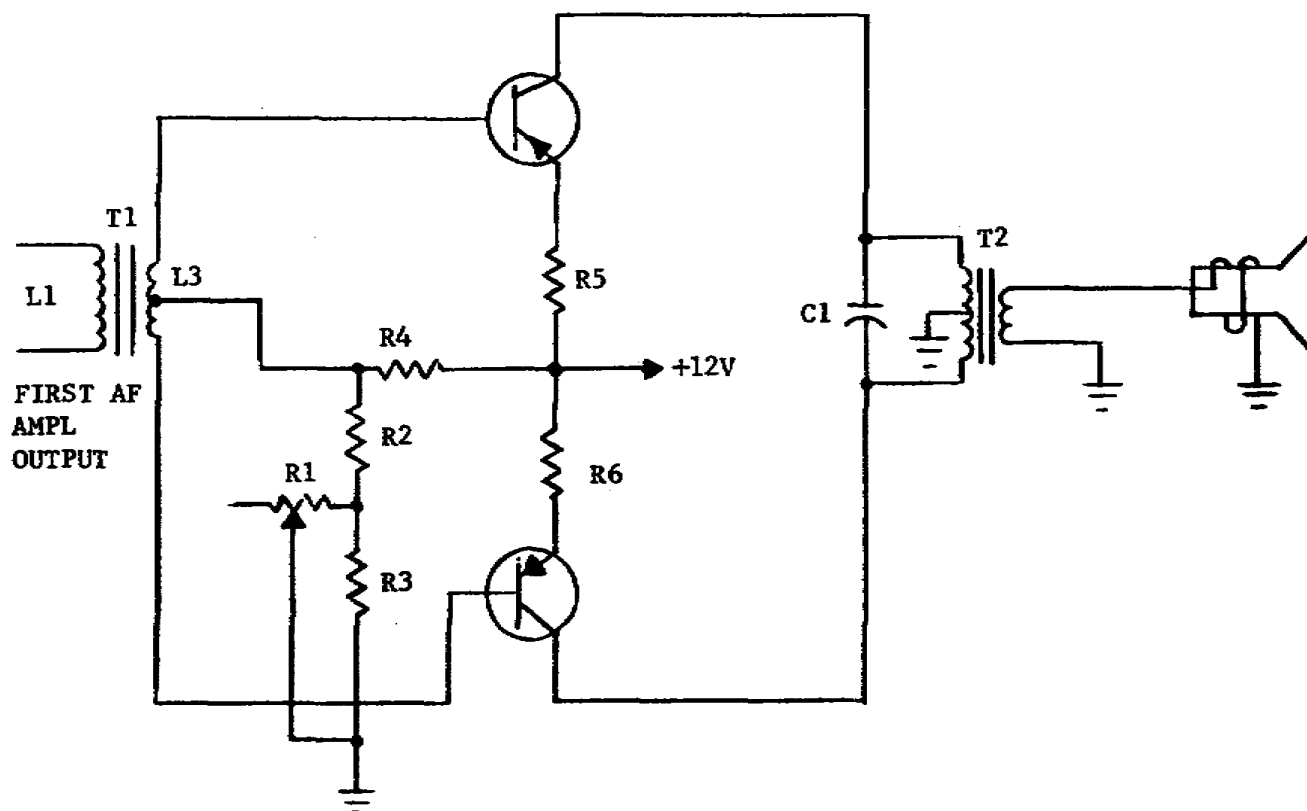

Figure 4-3. Push-pull transistor output amplifier.
c. Push-Pull Output Stage. Where more power is required than a single-ended amplifier can furnish, two transistors can be combined in a push-pull amplifier. This type of amplifier has the combined advantages of greater output and the ability to cancel out many of the distortion products created by the transistors. Figure 4-3 illustrates a class AB power amplifier employing two PNP high-power transistors in a push-pull circuit.
15. There is no provision for degenerative feedback from the output to the input circuit of figure 4-3 (attached memorandum) because the